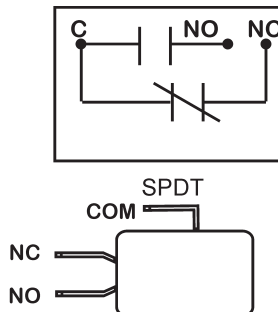

Fig. 3: Without pressure applied to the diaphragm, the switch contacts are in the position shown above.
The snap switch has male quick-connect terminals. Before pressure is applied to the diaphragm, the switch contacts will be in the normally closed (NC) position as shown in **Figure 3**.